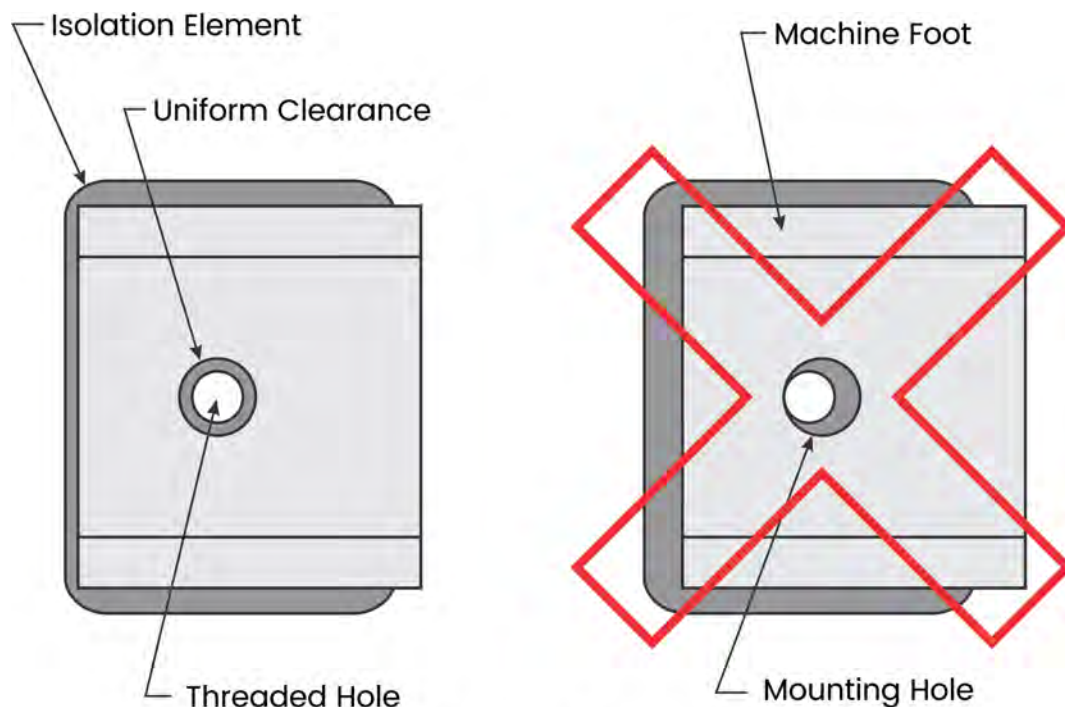

Figure 6
4. For isolation elements equipped with attachment bolts, position the isolation element under the machine foot so the tapped hole or welded nut in the isolation element is concentric with the machine's mounting hole as per Figure 6.